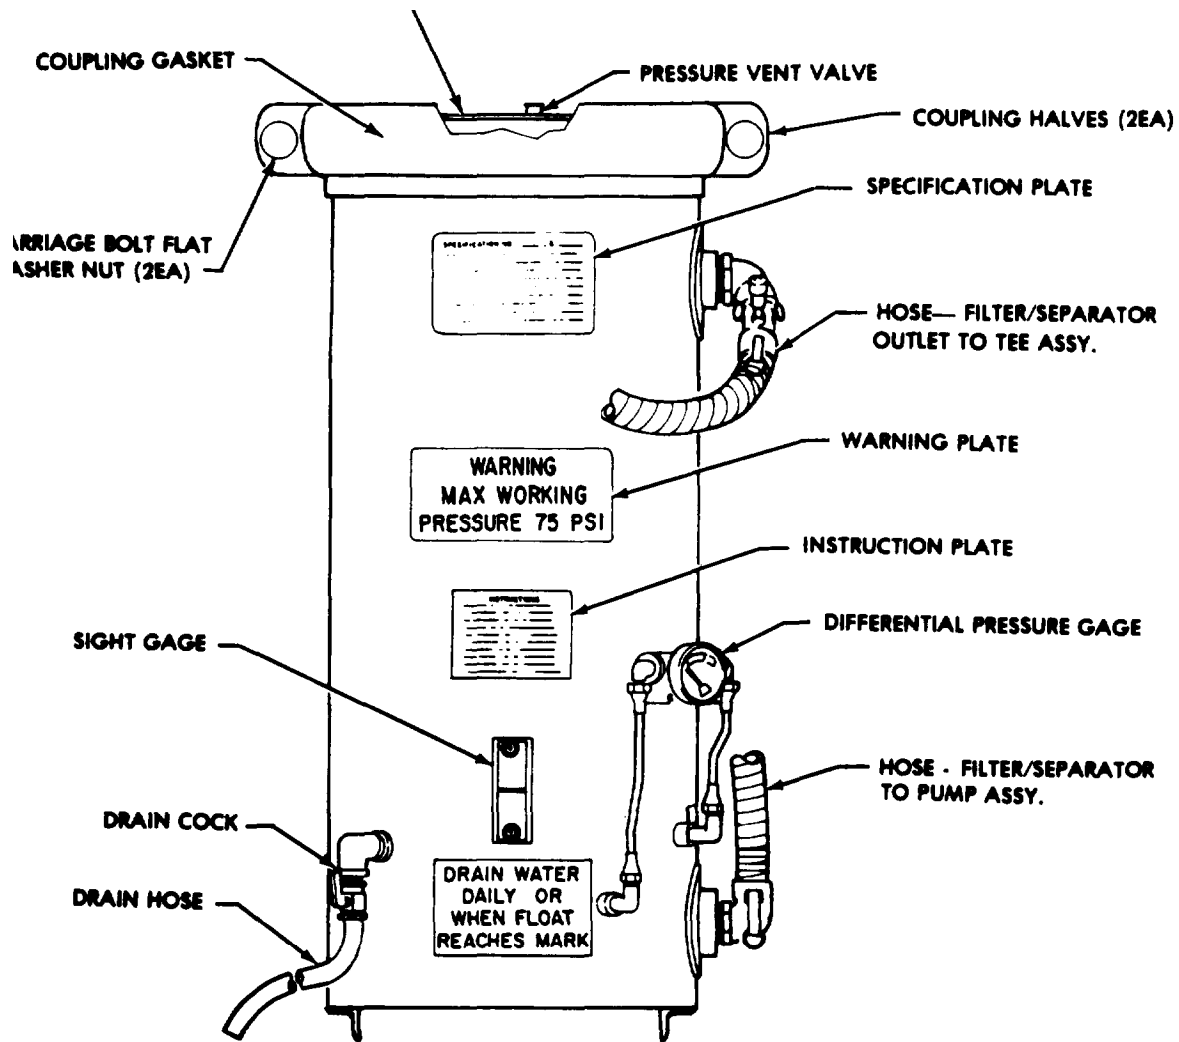

Figure 4-8. Filter Separator (Front).
- (1) Open the drain cock and drain the solution into a suitable container.
- (2) Open pressure vent valve by depressing it and locking it.
- (3) Disconnect the hoses.
- (4) Remove six screws, flat washers, lockwashers, and nuts to detach filter/separator from the A-frame assembly.
- (5) Remove filter/separator from the A-frame assembly.
- (6) To disassemble the filter/separator, remove two carriage bolts, washers and nuts to remove the two coupling clamp halves and the coupling gasket (figures 4-8 and 4-9).
- (1) Assemble filter elements into canisters and install in filter/separator (figures 4-8 and 4-9).
- (1) Open the filter/separator drain cock and drain the solution into a suitable container. (Figure 4-8.)
- (2) Open pressure vent valve by depressing and locking it.
- (3) Remove two screws and washers, and remove the sight gage, gasket, and float ball.
- (4) Disconnect flare nut couplings from the differential pressure gage.
- (5) Remove two screws and washers, and remove differential pressure gage.
- (6) Remove drain cock and hose.
- (7) Remove pressure vent valve.
- (1) Install pressure vent valve (figure 4-8).
- (2) Install drain cock and hose.
- (3) Install differential pressure gage.
- (4) Connect flare nut couplings to the differential pressure gage.
- (5) Install gasket, float ball, and sight gage.
- (6) Close drain cock.
- (7) Close pressure vent valve.